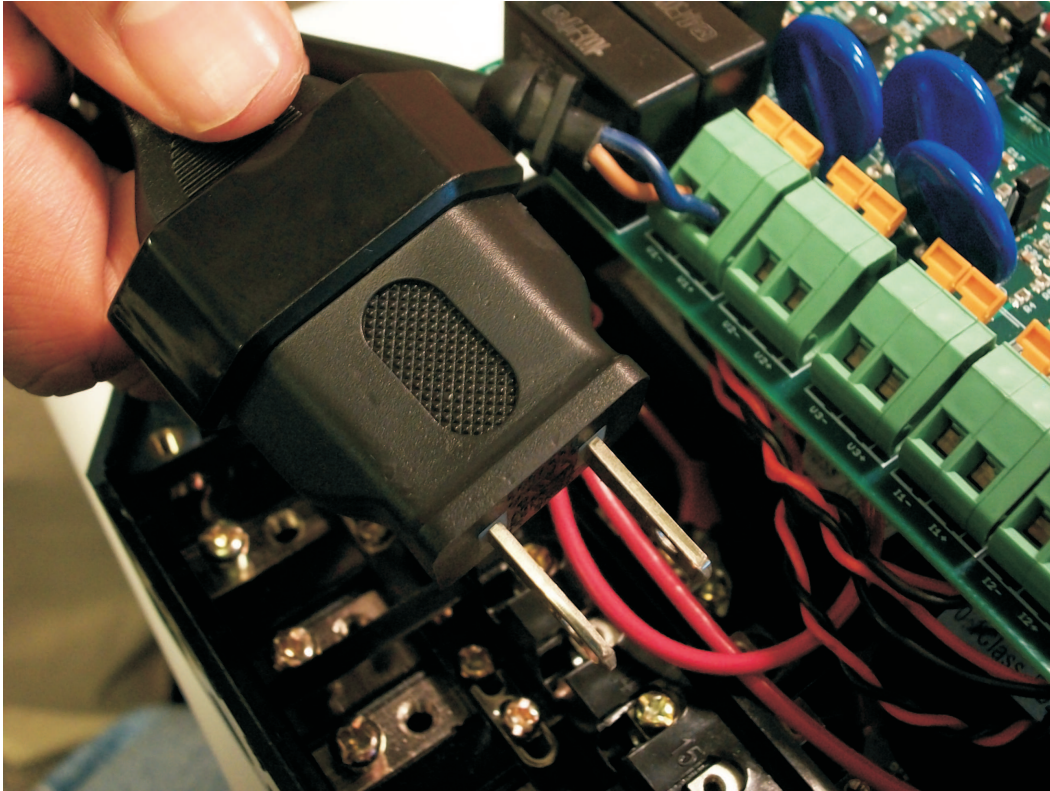
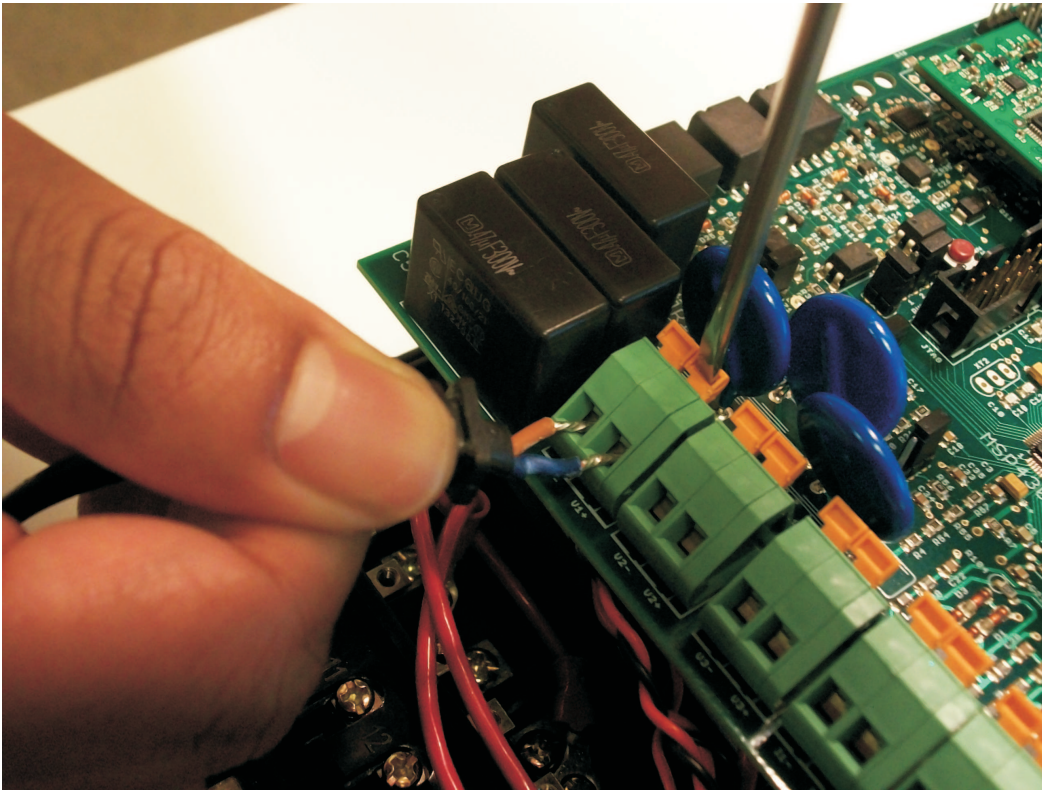

Figure 5. AC Power Cord Between V1+ and V1-
Figure 7. AC Power Cord Insertion Between V1+ and V1-
- (b) Ensure that the power cord is fixed firmly on the SMB 2.5 between connectors V1+ and V1-, as shown in Figure 5. If not, make sure you follow the steps shown in Figure 5 and Figure 7.
- (c) Make sure to press down with a flat-head screwdriver to release the contacts, if the power cord needs to be inserted. Do not attempt to use your fingers to push down on the connector head. Figure 7 indicates the type of flat-head screwdriver and the proper procedure to use.